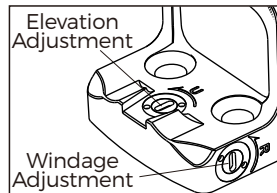

Fig 9
- 3) Adjustment can be performed by inserting the flat tipped end of the included tool into the turret slot and rotating. (See Fig 9)